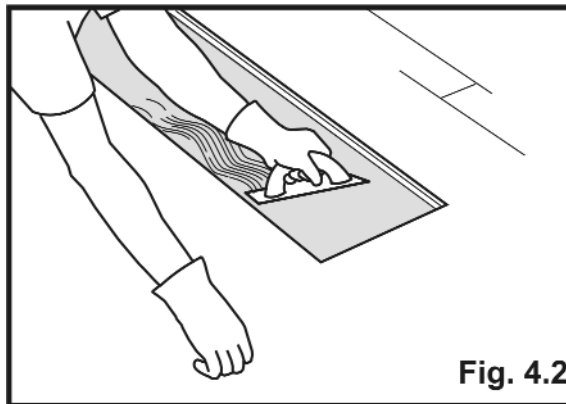

Fig. 4.2
- 4.2 Spread approved wood flooring adhesive in subfloor cavity (see Kährs Professional Installation Guide @ www.kahrs.com for approved adhesives) as shown in Fig. 4.2.